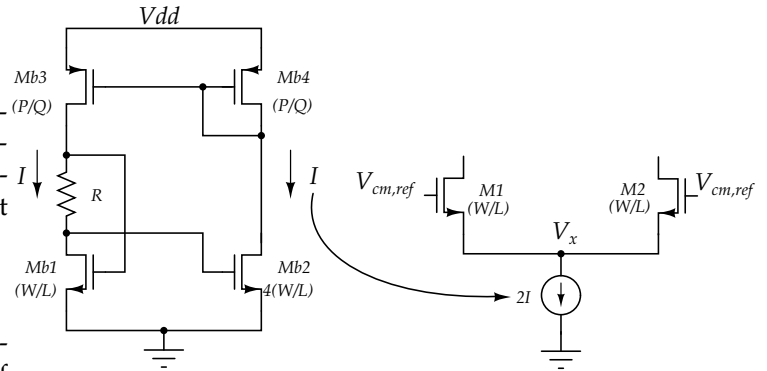
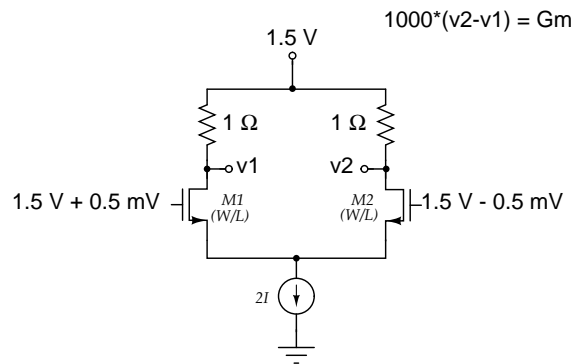
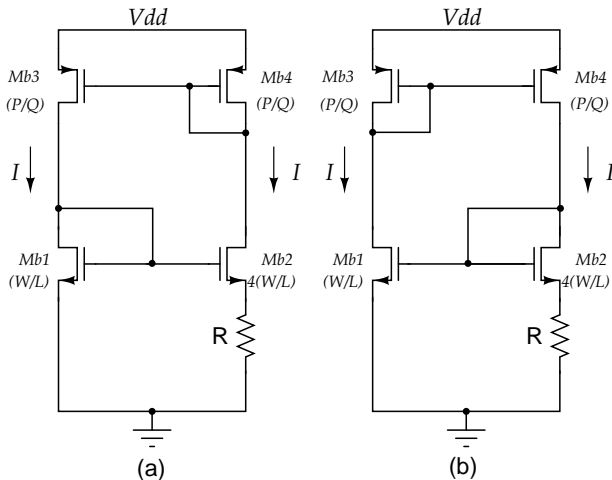

Figure 2: A partial fix for the body effect problem.
Figure 3: Measuring transconductance of M1.
Figure 1: Basic fixed G_m bias circuits.
A time constant associated with a G_m - C filter is of the form G_m/C . One has to keep this time constant stable over process and temperature. In practice, C is fairly stable, so that one needs to take care of only the variation in G_m . Figure 1 shows a circuit that attempts to stabilize the transconductance of a transistor. It is one of many circuits that are called "fixed transconductance bias" circuits. The idea is to "servo" the G_m of a "master" device ($Mb1$ in the cases discussed below) to a stable external resistor R . Once this is done, all devices whose transconductance need stabilization are biased at the same operating point as the "master" device in the "servo" circuit as shown, for instance in Figure 2. Eventually, we are interested in the G_m of the "slave" devices ($M1, M2$ in Figure 2). Use the circuit of Figure 3, to do this.
- First, analyze the circuit of Figure 1 (a). Assume that the bodies of all devices are tied to their sources and neglect output impedance of the devices. V_{dd} is such that all devices operate in saturation. Find the current I and the transconductance of $Mb1$.
- b. Repeat for the circuit of Figure 1 (b). One of these circuits works and one doesn't. Which one works? Why?
- e. A partial fix for the body effect problem is shown in Figure 2. Analyze this circuit and run a temperature sweep as above. What do you notice?